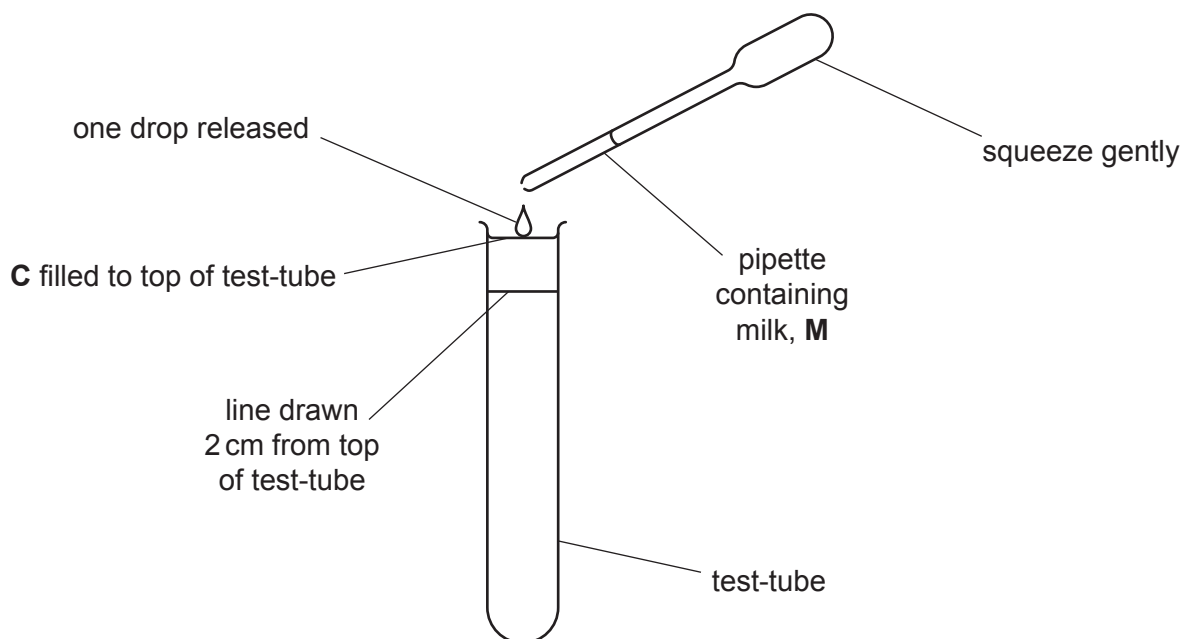

Fig. 1.3
step 9 Put **one** drop of 95% milk into the test-tube containing **C**, as shown in Fig. 1.3. Start timing when the drop passes the line you have drawn.